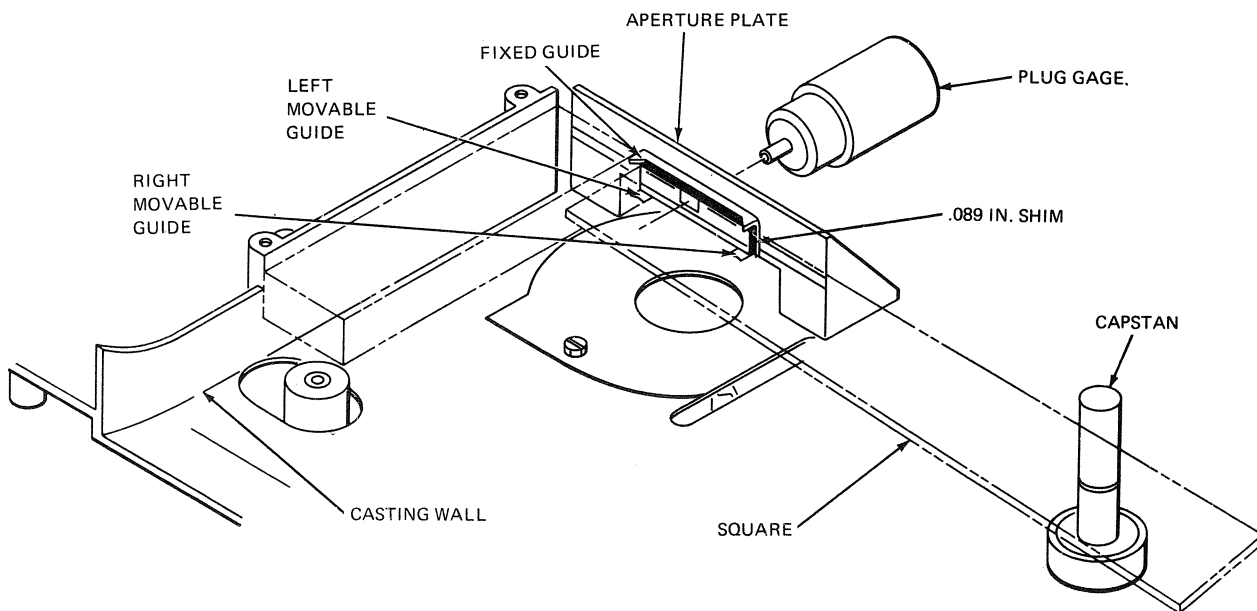

Figure 5-5. Aperture Plate Position
On the aperture plate (figure 4, sheet 1, item 50) the movable guide on the left side should measure a break-away force of 5 to 15 grams. The movable guide on the right side should measure a break-away force of 25 to 35 grams. If adjustment is necessary, increase or decrease force by bending leaf spring portion of guide. (See fig. 5-5)
- C. Bank one edge of the square against the left casting wall and the other against the capstan (figure 4, sheet 1, item 89). See figure 4-4 and figure 5-5.